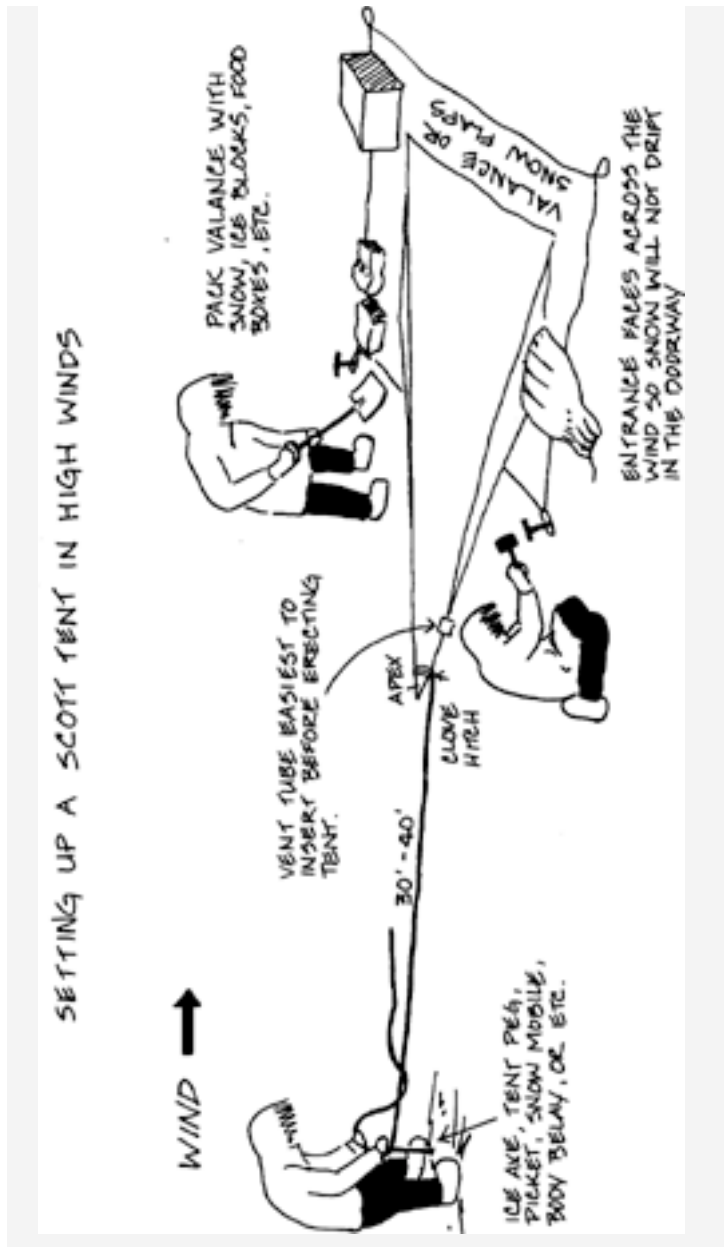

Figure 12-2: Setting up a Scott Tent in high winds.
1. In high winds, raise the tent while belaying with the attached rope, allowing the wind to assist you, pulling the leeward poles into position. (See figures 12-2 and 12-3).